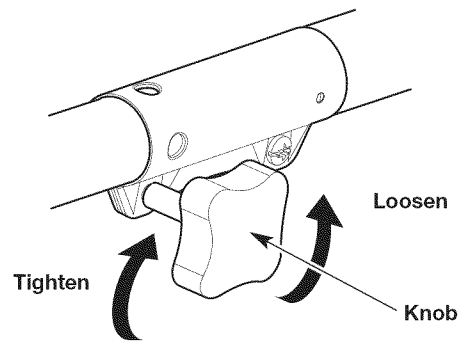

Fig. 4
3. Turn the knob counterclockwise to loosen the coupler (Fig. 4).
6. Turn the knob clockwise to tighten the coupler (Fig. 4).
2. Turn the knob counterclockwise to loosen the coupler (Fig. 4).
1. Turn the knob counterclockwise to loosen the coupler (Fig. 4). Refer to *Operating the Coupler* in the *Assembly* section.